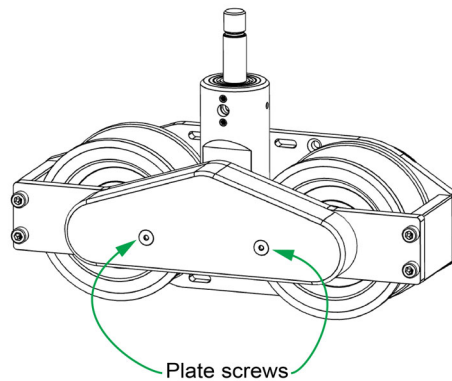

Figure 16 - Removing the Drive Wheel Post Screws
1. Use a 3 mm hexagonal wrench to remove the two screws on the outer drive wheel cover, as shown in **Figure 16**.